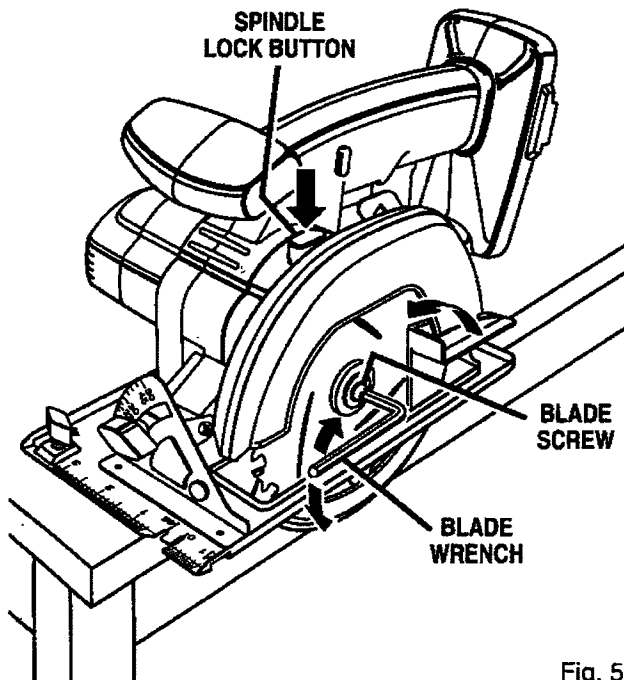

Fig. 5
- Position your saw as shown in figure 5, depress spindle lock button, and remove blade screw.